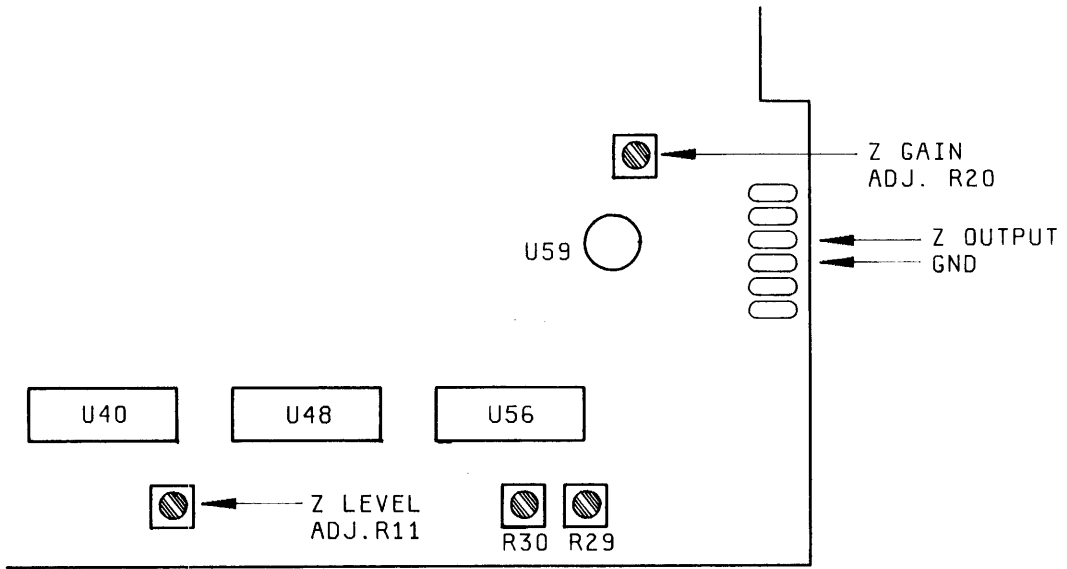
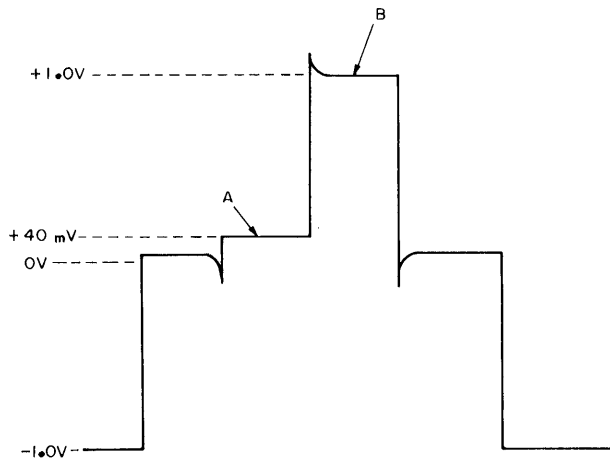

Figure 5-4. Z-axis Output and Adjustment Locations on Control Board
Figure 5-5. Z-axis Adjustment Waveform
- e. Connect oscilloscope probe to Z-axis output on Control Board (figure 5-4).
- g. Set 1351A rear-panel Z-AXIS control fully clockwise (CW).
- i. Set Z LEVEL ADJ. A1R11 (see figure 5-4) so that the portion of the waveform marked "A" in figure 5-5 is at +40 mV.
- j. Set Z GAIN LIMIT ADJ. A1R20 (see figure 5-4) so that the portion of the waveform marked "B" in figure 5-5 is at +1.0 V.